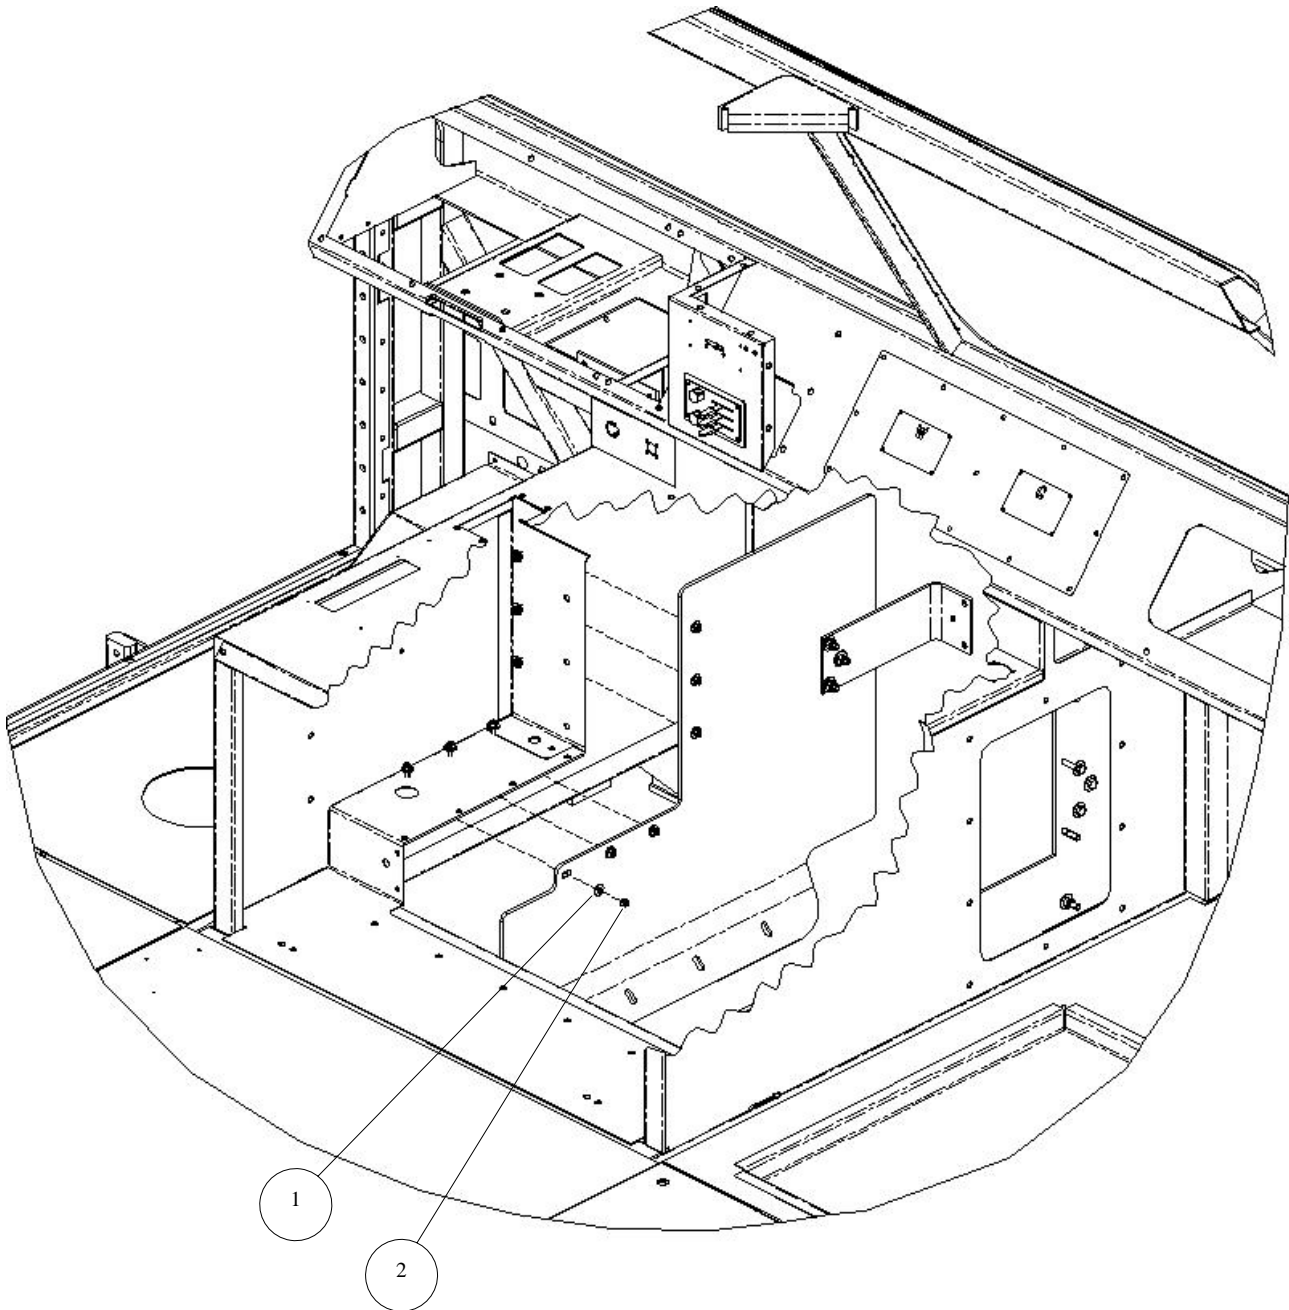

Figure 3-47. Doghouse Left Panel Pre-Assembly.
9. Install doghouse left panel assembly as follows (see Figure 3-47):
- a. Install doghouse left panel assembly into doghouse and secure to doghouse inner brackets with six flat washers (1) and locknuts (2). Torque locknuts to 7 lb-ft.